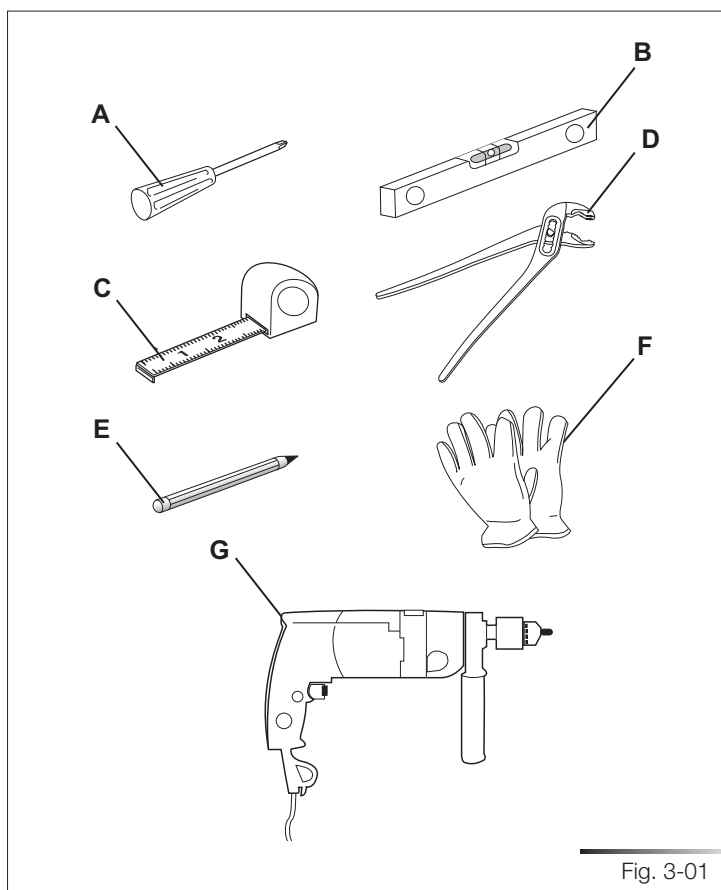

Fig. 3-01
- Philips screwdriver (ref. A fig. 3-01);
- spirit level (ref. B fig. 3-01);
- tape measure (ref. C fig. 3-01);
- plumbing pliers (ref. D fig. 3-01);
- pencil (ref. E fig. 3-01);
- safety gloves (ref. F fig. 3-01);
- drill (ref. G fig. 3-01).